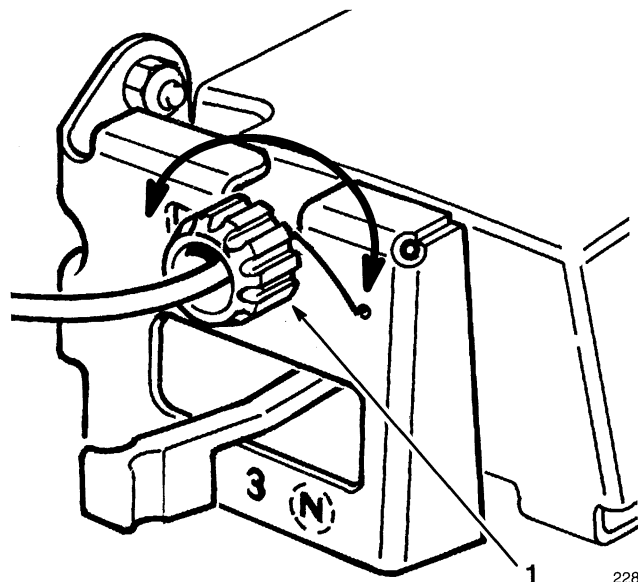

Figure 20
2. ADJUSTMENT (Fig. 20)—Rotate control knob clockwise 1/2 turn if mower does not self-propel. If mower creeps forward, rotate knob 1/2 turn counterclockwise to loosen belt.